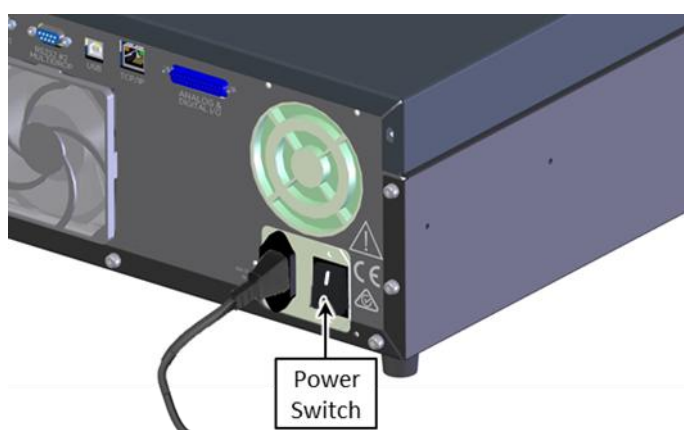

Figure 30 – Turn ON Power Switch
- Refer to Figure 30. Turn ON the power switch.